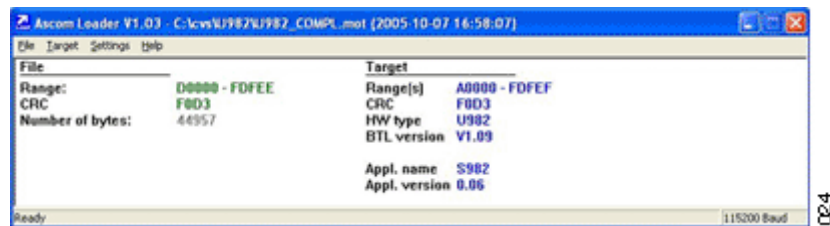

Figure 21. Ascom Loader main view.
- 4 Open the software "Ascom Loader", see figure 21 below.